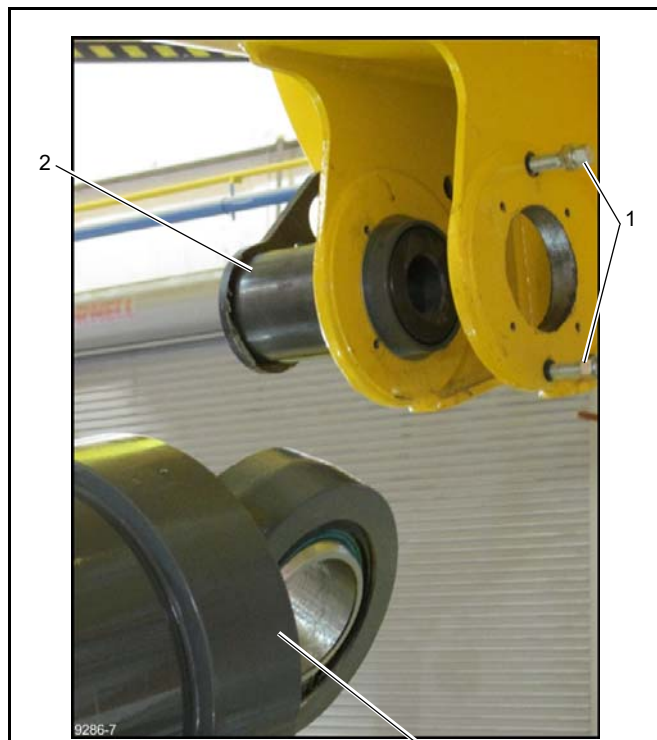

FIGURE 4-15
10. Run stop/adjustable bolts (1, Figure 4-15) on the side of the weldment completely out.
11. Pull lift cylinder pin (2) far enough out that the cylinder (3) will clear it, install shim and bushing/plate on the pin.